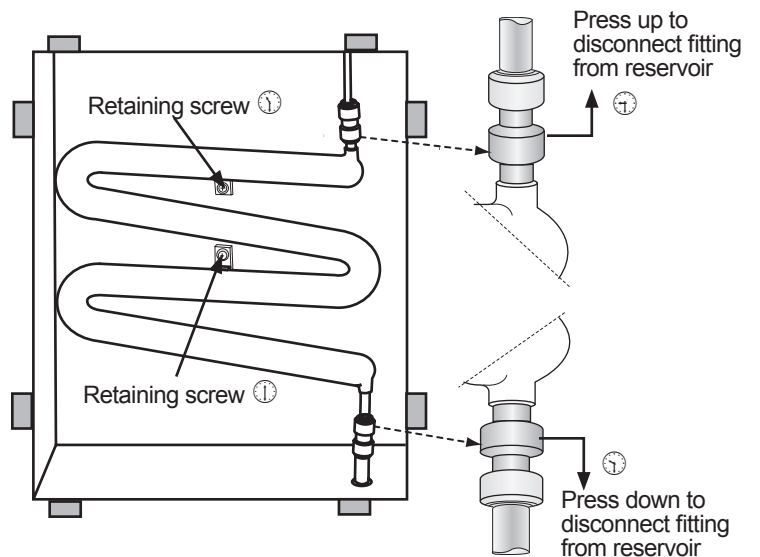

Figure 11-9. —Reservoir fittings and retaining screws.
6. Disconnect the dispenser water line at the reservoir. See Figure 11-9 ④. Allow water to drain into the container (placed in step 4).
7. Disconnect the water fill line from the reservoir. See Figure 11-9 ⑤.
8. Remove the retaining screws, then pull the reservoir out of the cabinet recess. See Figure 11-9, ⑥ and ⑦.